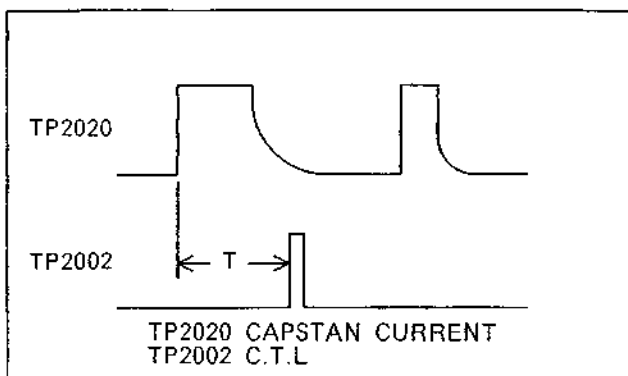

FIG. E5
2. Adjust the VR2011 (SP) and VR2006 (LP) respectively as shown in FIG. E5.